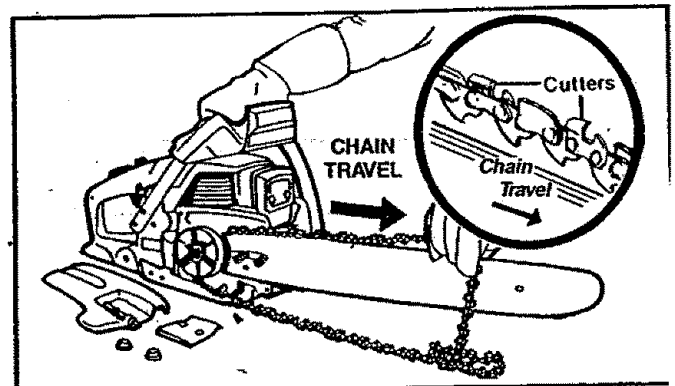

Figure 11
3. Hold chain with cutters facing as shown in Figure 11.
7. Start at the top of the bar and fit the chain drive links into the groove around the Guide Bar. Figure 11.